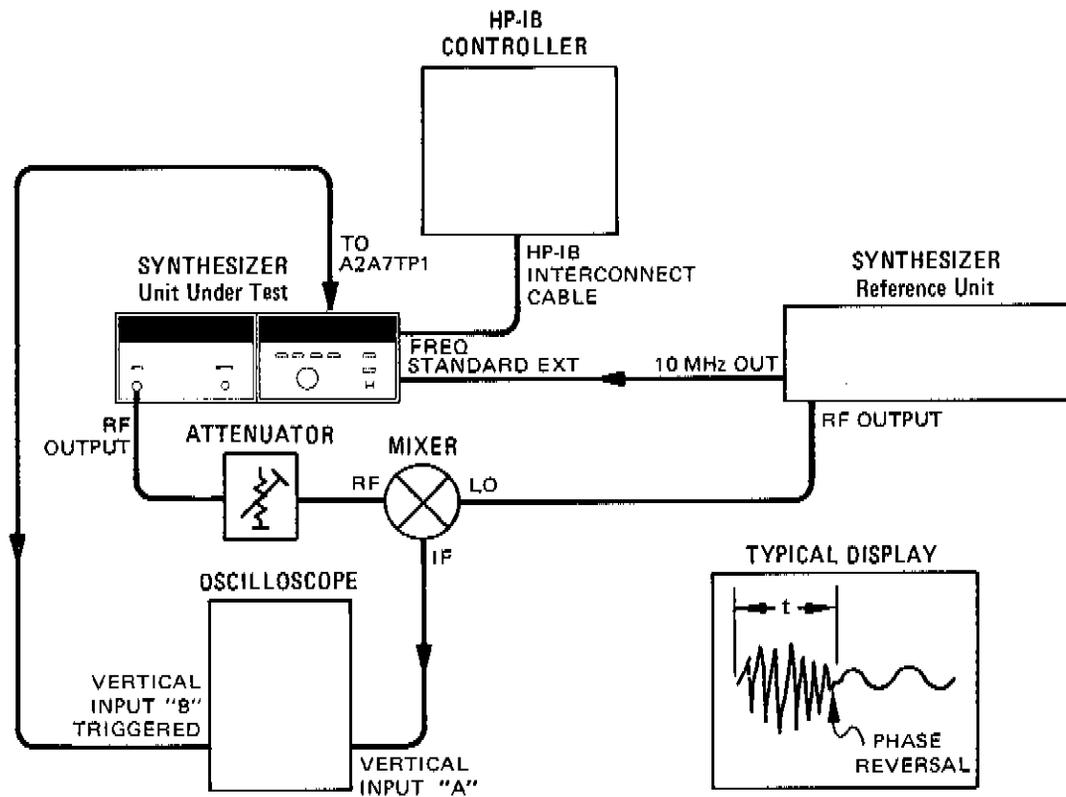

Figure 4-9. Frequency Switching Time Test Setup
12. Connect the remaining equipment as shown in Figure 4-9.
15. Measure the switching time by observing the signal on the oscilloscope display. The Frequency Execute program code triggers the oscilloscope's horizontal sweep. Therefore, the timing begins at the display's left graticule line. The timing ends at the last phase reversal as the IF signal settles into a steady frequency. Refer to Figure 4-9. This should occur in less than 15 ms. Record the switching time. _____ 15 ms